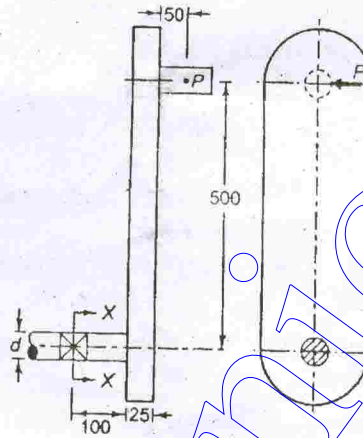

Fig. 11(a)
11. (a) The dimensions of an overhang crank are given in figure 11(a). The force P acting at the crank pin is 1 kN. The crank is made of steel 30C8 and factor of safety is 2. Using maximum shear stress theory of failure, determine the diameter 'd' at the section XX